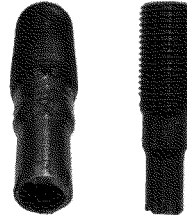

Figure 5. Coupon Retaining Punch
- 3.2 Inspect coupon retaining punch to ensure no coupon exists from prior use (Figure 5).